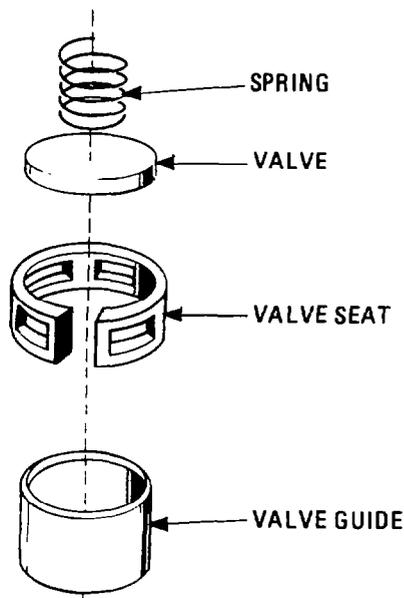

Fig. 377 — Exploded View of Inlet Valve Assembly
- c. Remove the inlet valve springs from the head then remove the inlet valves from their respective guides (see fig. 377).